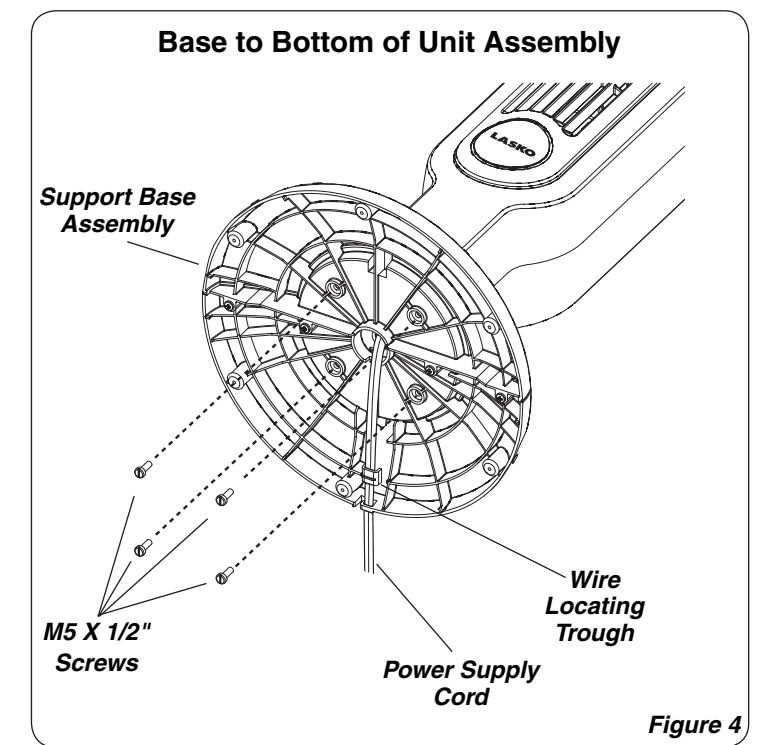

Figure 4
- Secure the **Support Base Assembly** to the bottom of the Fan with (4) **1/2" Long M5 Screws**. Gently pull any excess slack of the **Power Supply Cord** and place it in the **Wire Locating Trough**. (**Figure 4**)